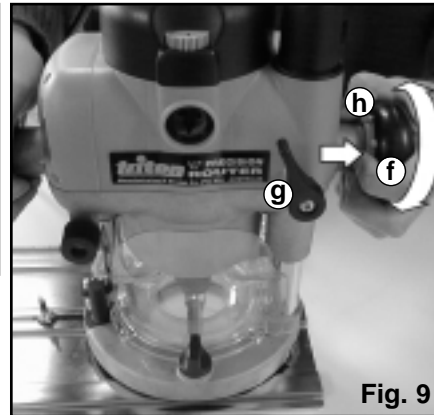

Fig. 9
2. Squeeze the Ring (h) on the Winder Handle (f) and turn the handle to raise or lower the cutter. **Fig 9.** Release the ring at the required depth, allowing it to "pop out", locking the router at the approximate location.